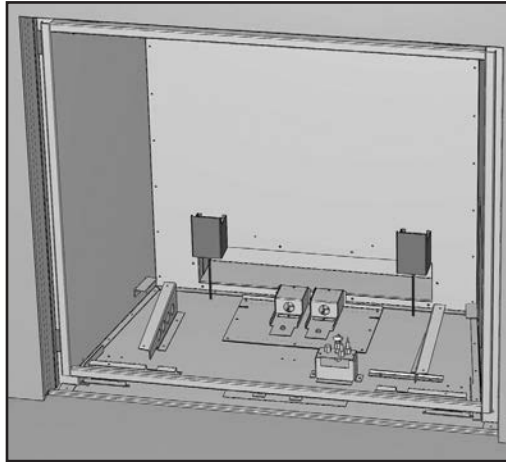

Figure 33: Porcelain Light Covers in Place.
1. Install the porcelain Light Covers over the Light Cover Base. The tabs on the back of the Light Cover slide down behind the Light Cover Base. Refer to Figures 33 & 34.